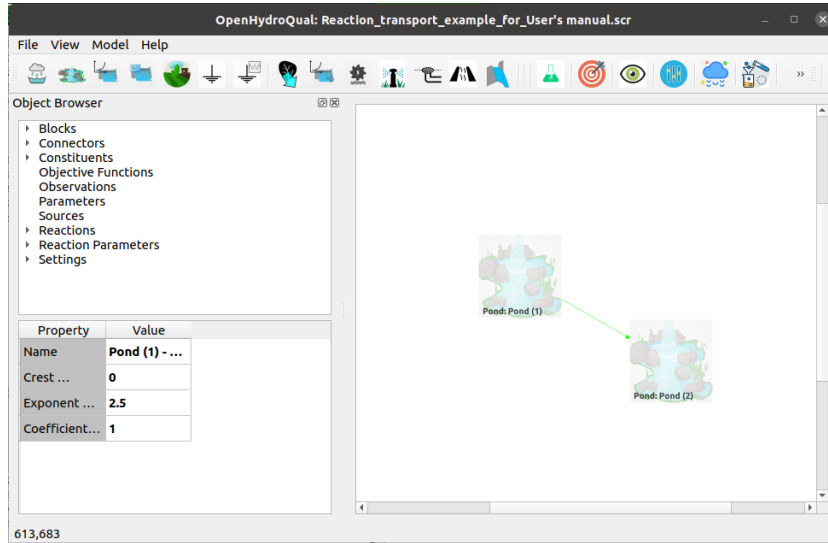

Figure 5: Screenshot of the GUI with two connected reactors
connect *Pond (1)* to *Pond (2)*. Your GUI screen should look like figure 5.